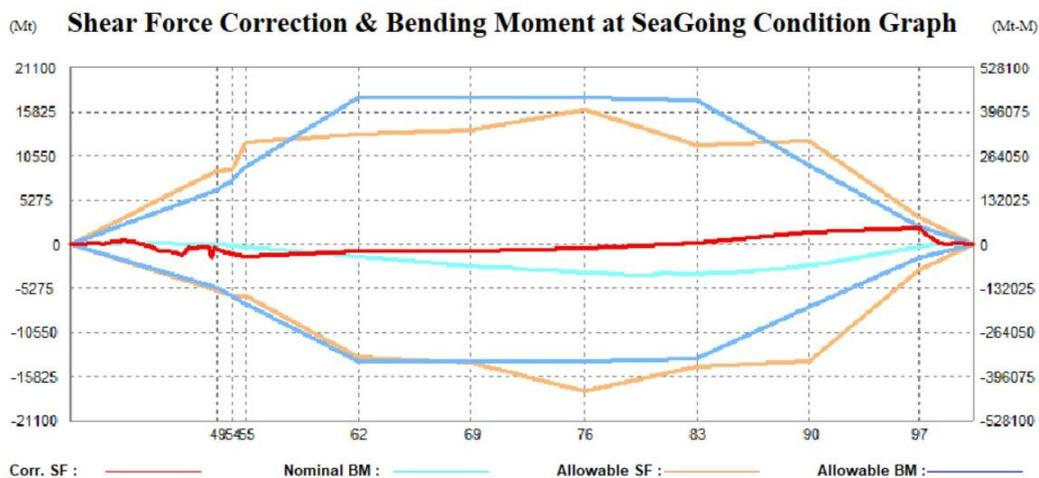

Figure 3. Ship's loading instrument calculations for bending moments and shear forces
- ✓ Constantly monitor the shear forces and bending moments on the ship's loading instrument on Figure 3.